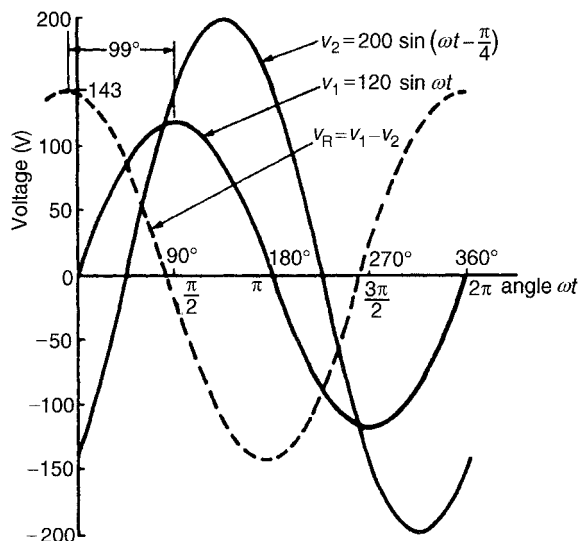

Figure 14.13
- (a) $v_1 = 120 \sin \omega t$ and $v_2 = 200 \sin(\omega t - \pi/4)$ are shown plotted in Fig. 14.13 Care must be taken when subtracting values of ordinates especially when at least one of the ordinates is negative. For example
The resultant waveform, $v_R = v_1 - v_2$, is shown by the broken line in Fig. 14.13. The maximum value of v_R is 143 V and the waveform is seen to lead v_1 by 99° (i.e. 1.73 radians)